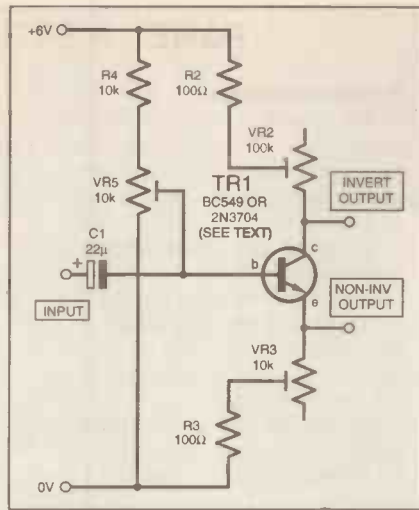
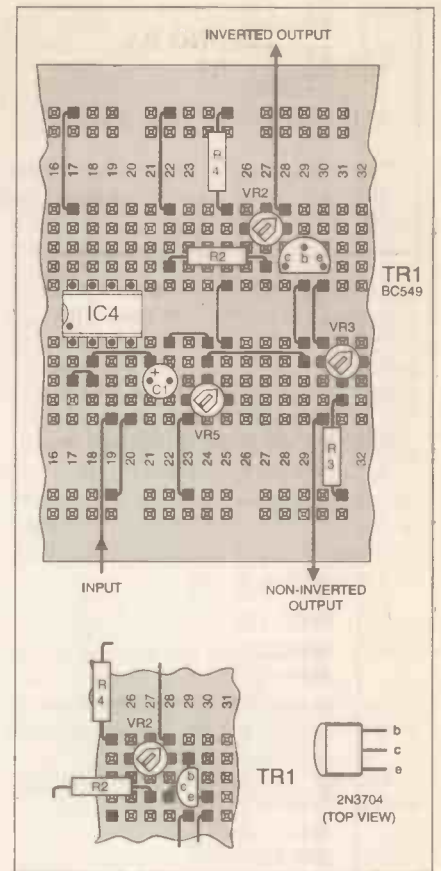

Fig.9.6. Circuit diagram for the a.c. coupled phase-split amplifier.
Fig.9.7. Breadboard layout for the circuit in Fig.9.6. Again note the different transistor orientation if using a 2N3704 instead of a BC549.
As with the op.amp circuit, though, we can isolate the transistor from the d.c. influence of the oscillator. Basically, this is again done by inserting a capacitor (call it C1) between the oscillator and the input to the amplifier (TR1 base, in this case), see Fig.9.6.
On the breadboard layout (Fig.9.7) we have also included an op.amp buffer (not shown in Fig.9.6) between IC1a pin 1 and this capacitor, to prevent "loading the oscillator" (as discussed in Part 7). On its own, C1 might still not allow the input waveform voltage to swing adequately above and below the nominal 0.6V threshold. The signal level might cause TR1 to operate in its principally unpredictable bias region, in which the base-emitter resistance can vary greatly (as previously discussed).
When you have assembled the split-phase circuit layout of Fig.9.7, experiment with the presets and observe the results on your computer (Analogue Input Waveform Display) and meter.
Experiment with the program's options, and then return to your breadboard layout in Fig.9.6 for of the Split-Phase circuit and experiment there, concentrating on the emitter voltage when the collector resistance VR2 is at its minimum. If you wish, replace R2 and VR2 by a wire link between the collector and the positive line, but retain R3 and VR3 in the emitter path as a safety measure.
**A**S THIS month's first experimental suggestion, insert l.e.d.s (light emitting diodes) into the emitter and collector paths in your breadboard assembly of Fig.9.7 from the Tutorial. Each should be placed between the relevant power line and existing 100Ω resistor. An extra link wire will be needed for each of them.